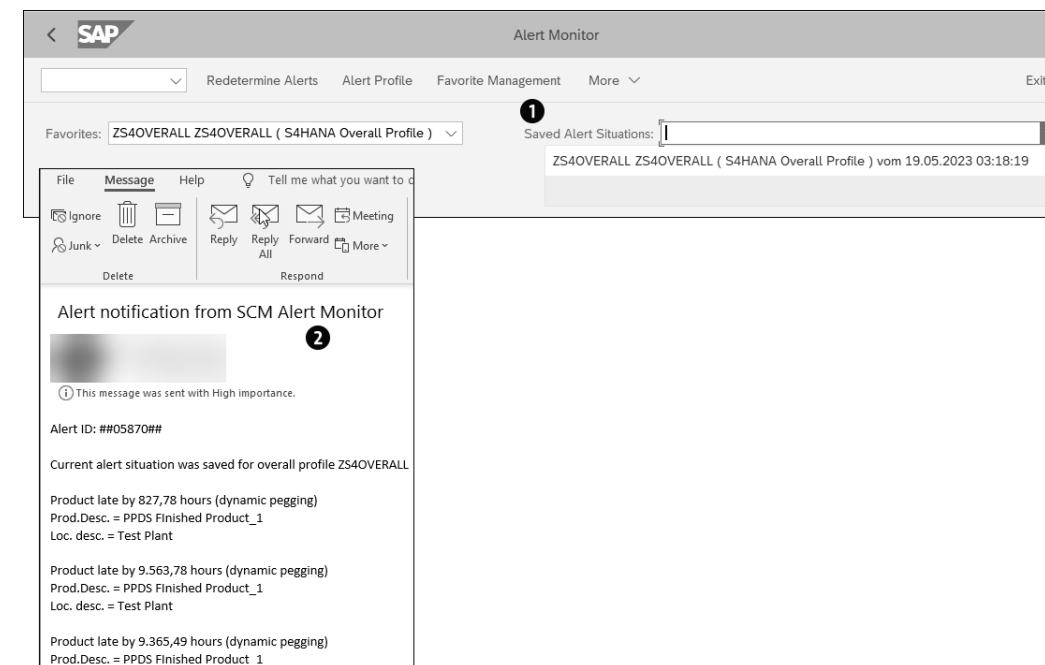

Figure 7.13 Monitoring the Results of Background Alert Generation
You can use the variant saved in the preceding step to schedule the background alert determination job with ABAP program /SAPAPO/READ\_ALERTS\_BATCH. After the background job determines the alerts, in the Alert Monitor transactions such as Transaction /SAPAPO/AMON1 or Transaction /SAPAPO/AMON3, there will be new options displayed on the screen next to the **Favorites** dropdown, which displays the list of all the profiles for which background generated alerts are available (see Figure 7.13 ❶). For one overall profile, only one set of determined alerts in the background is available at any point in time, and no historical data for the same profile is recorded. If another run of the alert determination is executed for the same overall profile, it will overwrite the results of the previous execution.
If there an email address maintained for the background alert generation, an email is also triggered with the alert details, as shown in Figure 7.13 ❷.